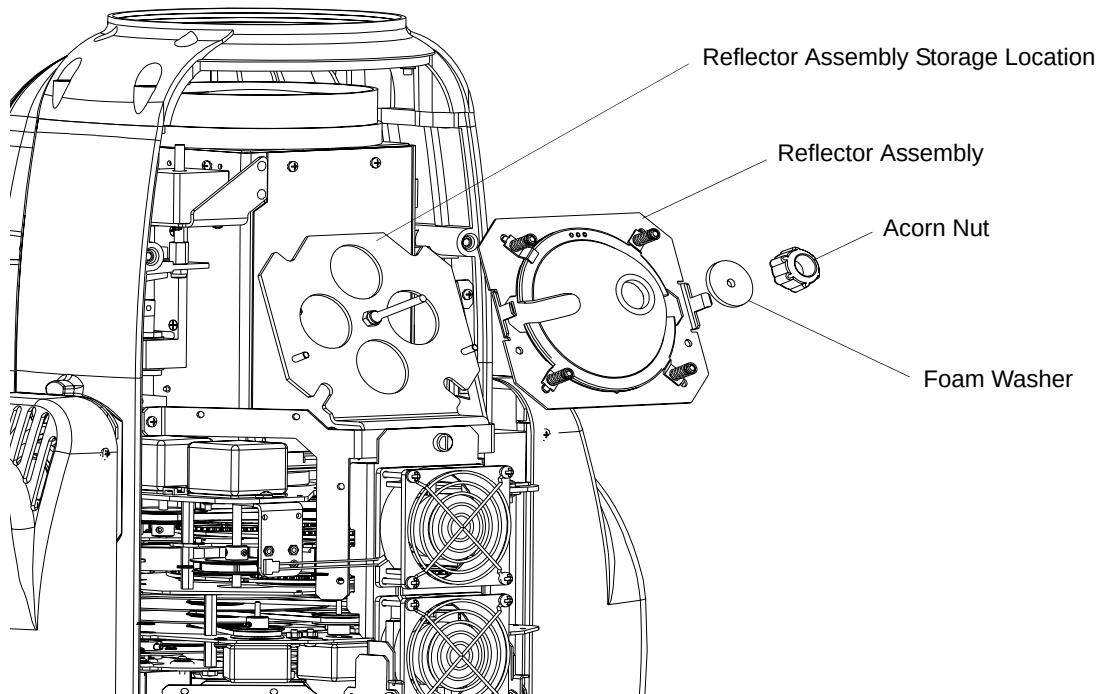

Figure 2-4: Reflector Removal (From Storage Location)
- Step 5. As shown in Figure 2-4, remove stored reflector by removing acorn nut and foam washer securing reflector in luminaire head assembly. Set reflector aside on a soft clean cloth.
- Step 12. Install removed reflector in storage location in luminaire head as illustrated in Figure 2-4. Make sure the foam washer is between the reflector assembly and the acorn nut.